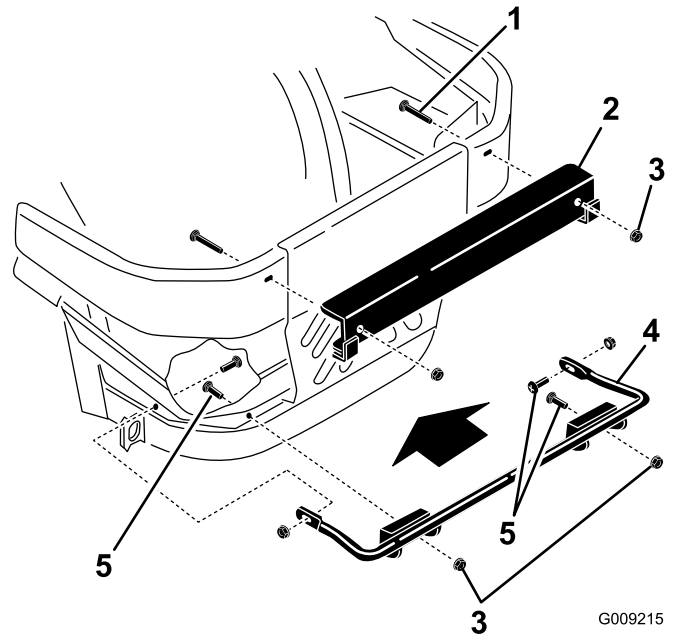

Figure 5
1. Install the lower mounting bracket to the machine frame with 4 carriage bolts (3/8 x 1-1/4 inches) and 4 flange nuts (3/8 inch) as shown in Figure 5.
2. Install the upper mounting bracket to the left and right side bumpers with 2 carriage bolts (1/2 x 2-1/2 inches) and 2 flange nuts (1/2 inch) as shown in Figure 5.